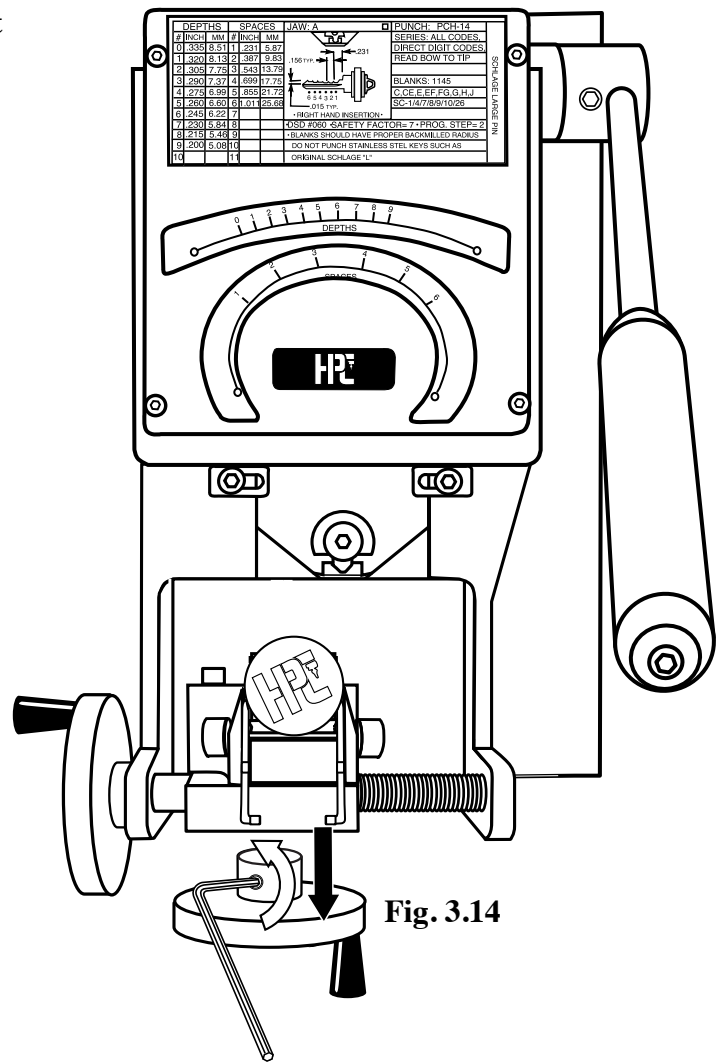

Fig. 3.14
2. Loosen the 2 set screws on the Depth Crank and remove the Depth Crank (Fig. 3.14).